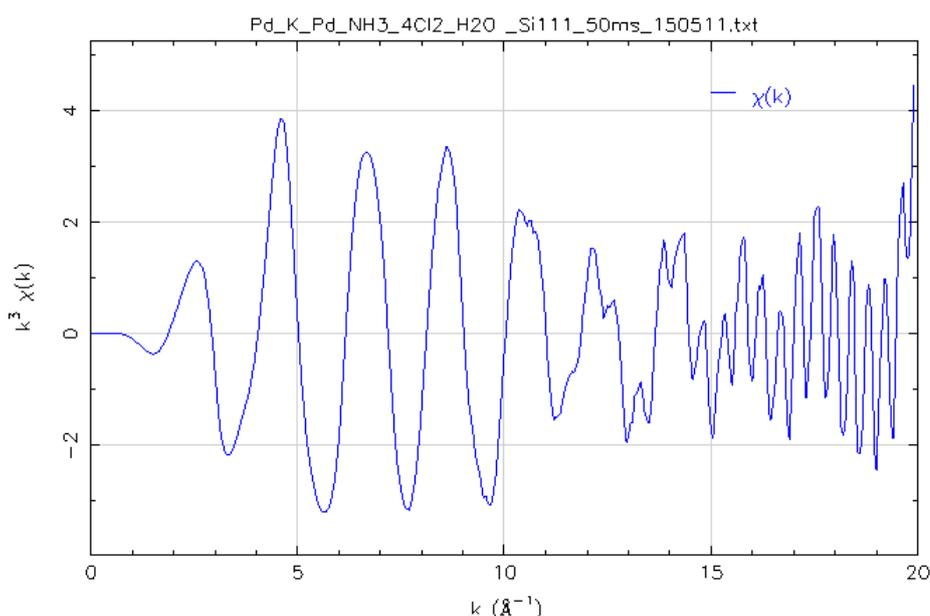

Fig.17 Normalized EXAFS of $\text{Pd}(\text{NH}_3)_4\text{Cl}_2 \cdot \text{H}_2\text{O}$ (Pd-K, Si(111) net plane)
In the beamline BL14B2, short-period vibrational components different from EXAFS vibrations sometimes overlap on the high-energy side of XAFS spectra measured in the high-energy region. As example, the normalized EXAFS of $\text{Pd}(\text{NH}_3)_4\text{Cl}_2 \cdot \text{H}_2\text{O}$ measured at the Pd-K edge and Si(111) net plane is shown in Fig.17. As the wavenumber increases, the short-period vibrational component becomes more pronounced. This short-period vibrational component is not due to the sample, but to the encoder of the crystal monochromator.
Figure 18 shows the angles of the crystal monochromator (PC and encoder values) when the XAFS spectrum in Fig. 17 was measured, and it can be seen that there is a periodic shift in the encoder values with respect to the PC angle. Since the sample-derived vibrational component is larger at the low wavenumber side of the normalized EXAFS, the effect of this periodic vibration is negligible. However, at the high wavenumber side, where the amplitude of the vibration component becomes smaller, the effect cannot be ignored, and a short periodic vibration component appears as shown in Fig.17. This periodic vibration of encoder values is not a problem specific to the beamline BL14B2, but is also seen in other beamlines. (This has been confirmed at the beamline BL19B2 and BL46XU. However, the degree of periodic deviation and the energy region where the deviation occurs vary from beamline to beamline. In most cases, the periodicity is much different compared to the EXAFS oscillation component, so the measured data are not affected).